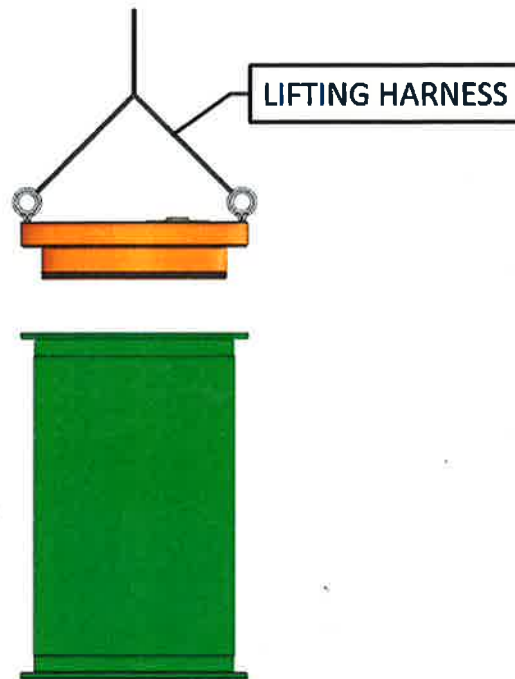
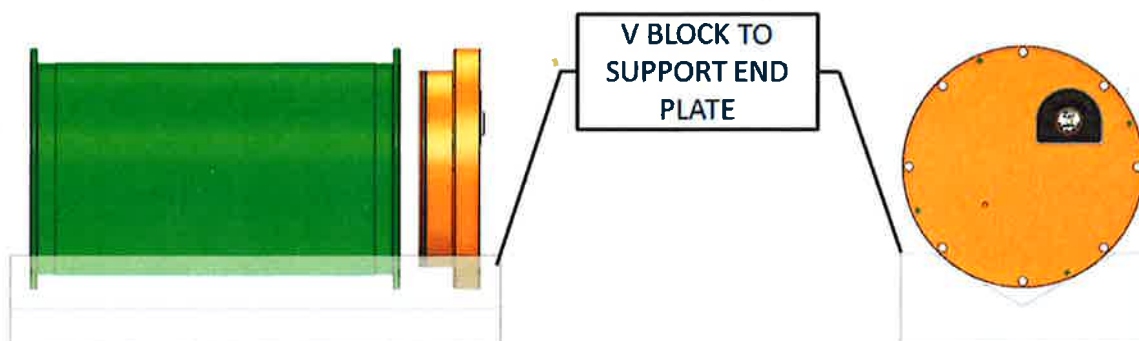

Figure 2: Vertical End Cap Installation
Figure 3: Horizontal End Cap Installation
4. **Install end caps-** It is recommended that end cap installation be performed vertically from above with the tube standing upright on end (see figure 2). If this is not practicable, the end caps may be assembled in the horizontal axis taking care to evenly support the weight of the end cap (see figure 3) and avoid misalignment during assembly. The following steps apply to both methods.